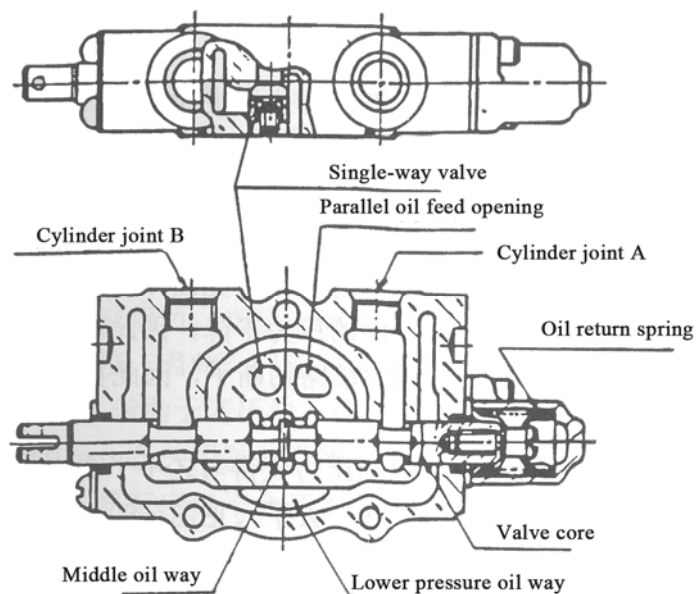

Fig 7.3 Middle Position
(1) Middle position (See Fig 7.3)